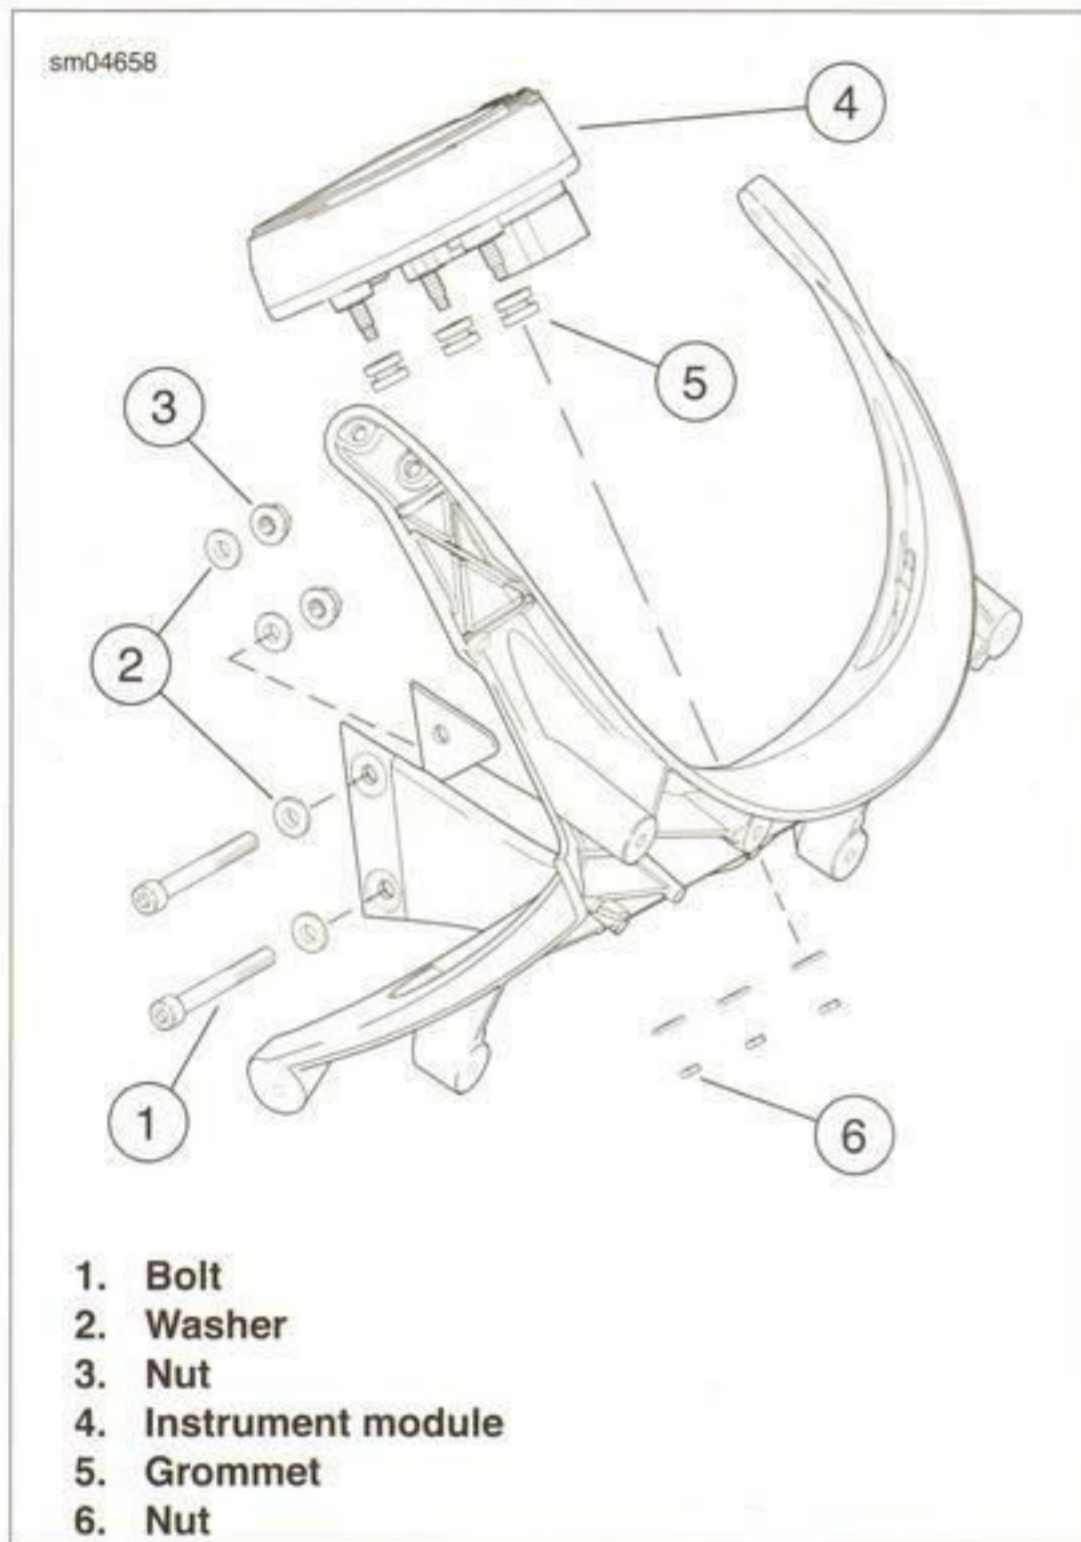

Figure 2-132. Fairing Support Bracket
1. See Figure 2-132. Install fairing support bracket with bolts (1), washers (2) and nuts (3).
3. If removed, install instrument cluster (4) with rubber grommets (5) and secure with nuts (6). Tighten to 1.4-4.1 Nm (12-36 in-lbs).